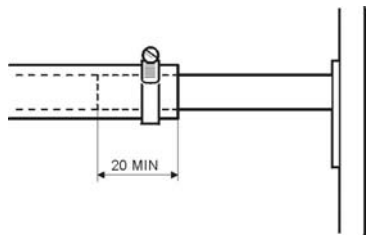

FIGURE 1a PRE MOD M500/M554
- 9.1 Ensure vent line hose clips are correctly positioned Ref Figures 1a and 1b. If vent line cannot meet dimensions at both ends, then replace vent line with new tube (MSAC Stores Code 126-36-054). Ensure the requirements of Service Bulletin SB161 Fuel Tank Vent Pipe Check are met.